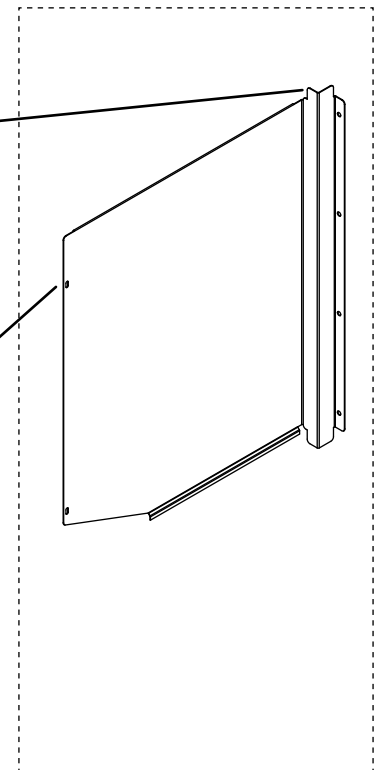

Fig. 5
2. Install the optional splash shield, if included with machine, see Fig. 5. Detailed instructions can be found in Appendix A at the rear of this manual.